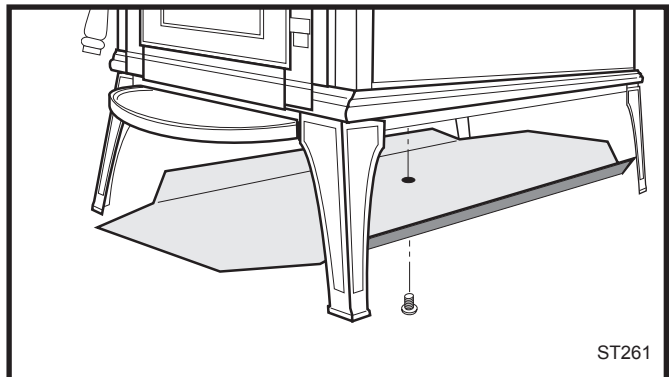

Fig. 27 Install the bottom heat shield.
1. Remove the 1/4"-20x 3/8" phillips screw from the central mounting boss in the stove bottom. (Fig. 27)